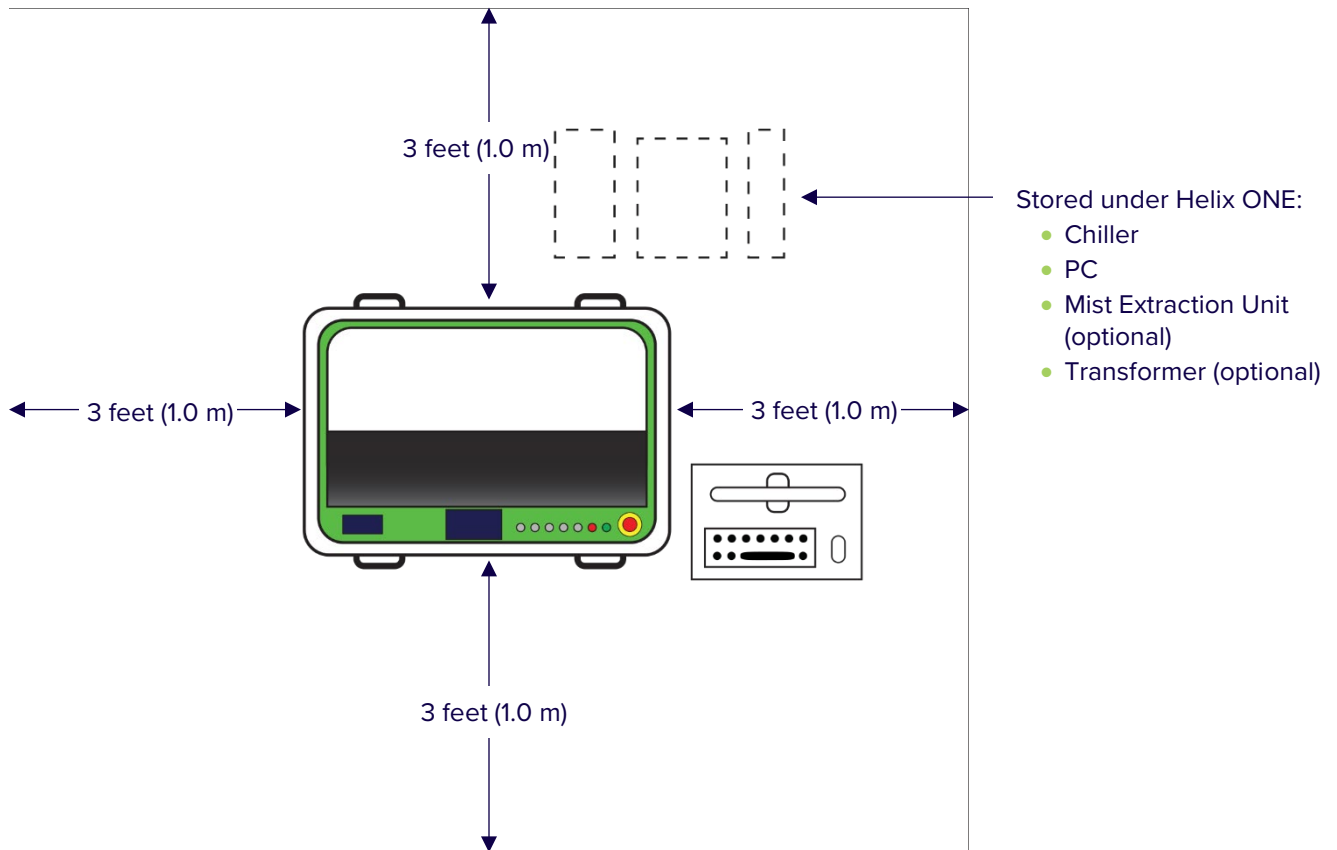

Figure 1: Minimum Room Operating Requirements
- Review Figure 1 for the recommended installation wall-to-machine requirements and minimum ware loading breakover.